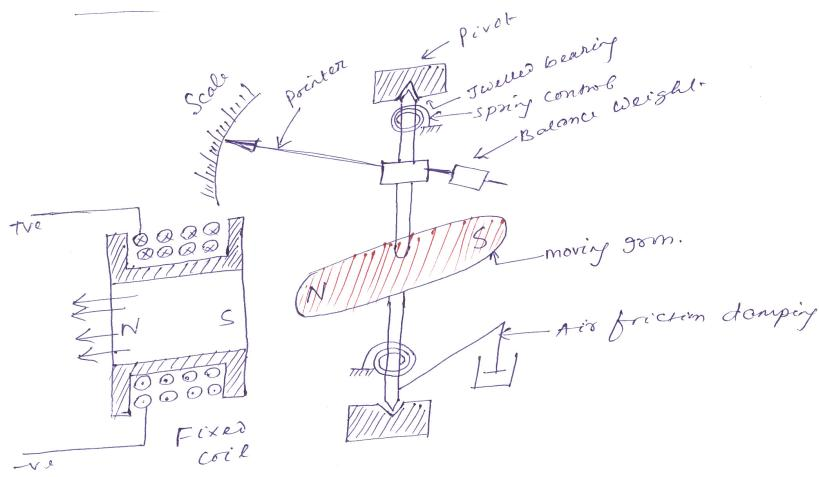

Fig. 1.10
**Construction:** The moving iron fixed to the spindle is kept near the hollow fixed coil (Fig. 1.10).